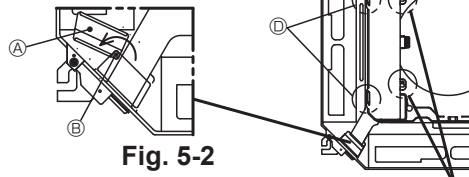

Fig. 5-2
2. Loosen the one screw securing the electrical wiring service panel at the cable entry (remote controller cable and indoor-outdoor connection cable), and then turn the service panel to the position shown in the diagram. (Fig. 5-2)